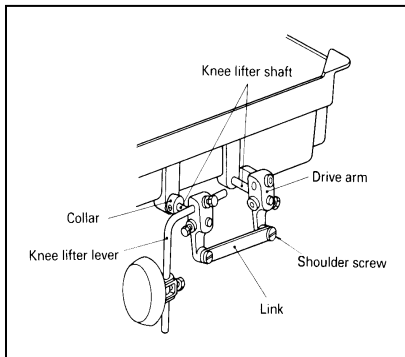

Fig.5
**8、 Installing the knee lifter (Fig.5) :**